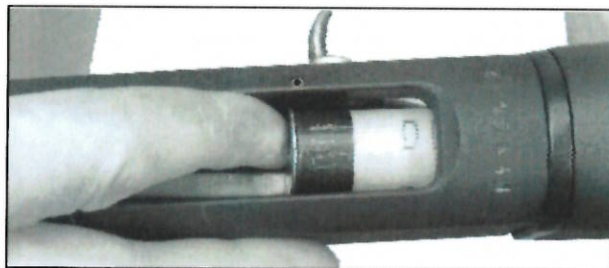

Figure 7b
2. Continue pushing the shotshell into the magazine tube (See Figure 7b) until the rim of the shotshell is past the shell stop as shown in Figure 7c. Repeat the above sequence to load each additional shotshell.